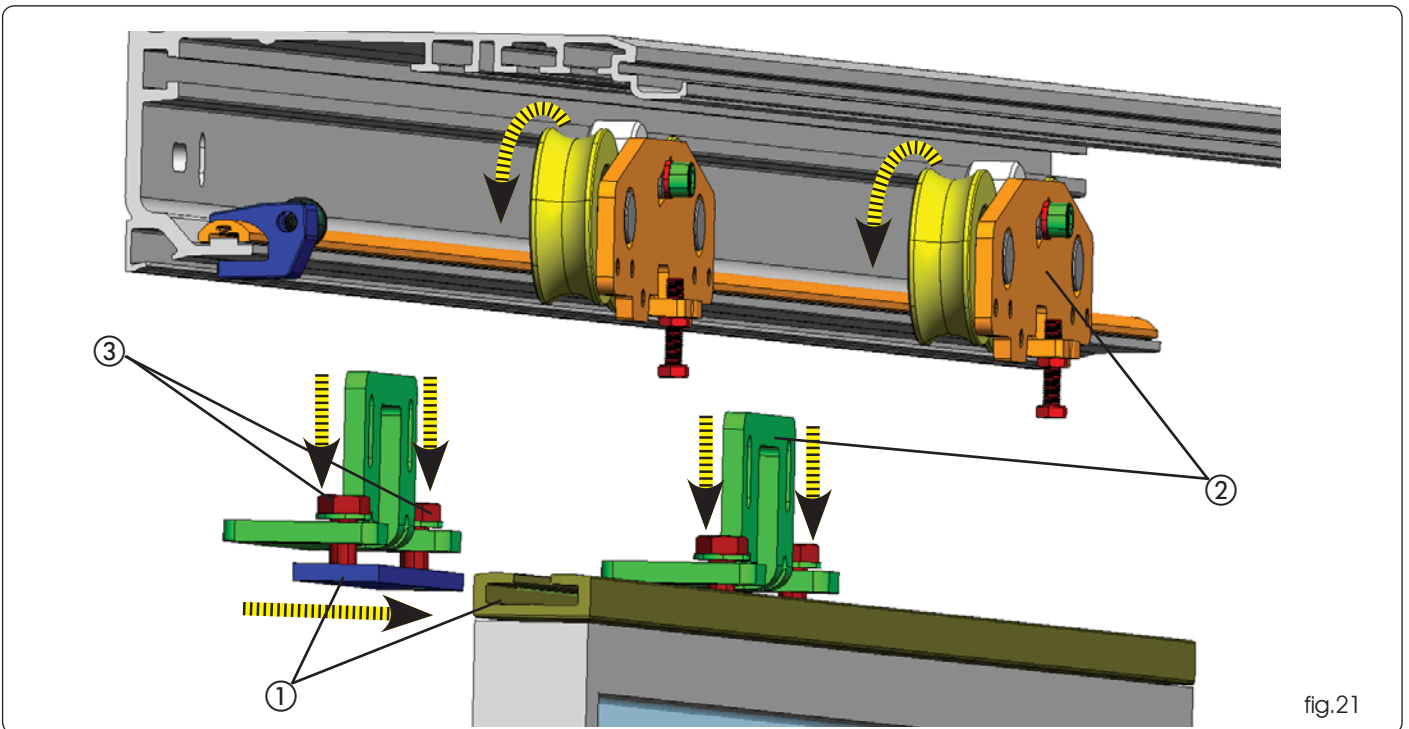

fig.21
Then, fit the upper plate of the carriage on the sliding profile fig 21 ref. ② and fit the lower plate of the carriage in the leaf fitting profile fig 21 ref. ①. Then secure using the bolts fig 21 ref. ③.